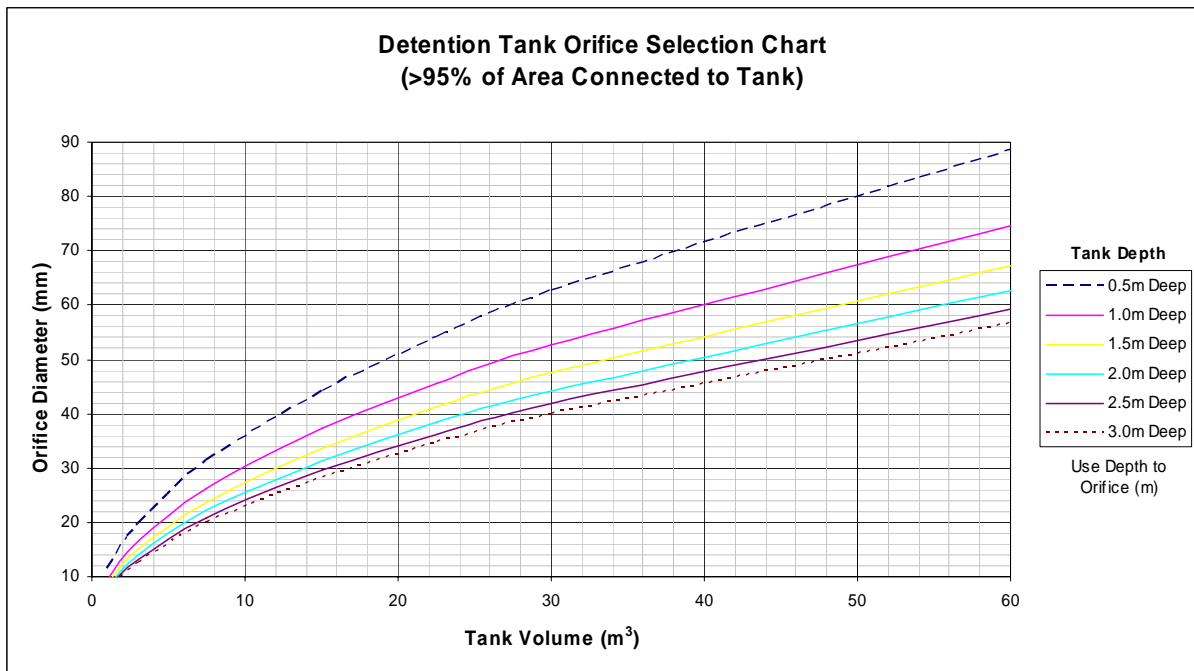

Figure 7.5: Orifice Sizing Chart for 2yr & 10yr Detention
7. **Size of the orifice for 2 & 10 yr** : The size of the orifice is dependant on the type of detention to be provided as well as the volume and depth of the tank. Figures 7.5 and 7.6 below can be used as a first approximation to size the orifice. For maintenance reasons, the minimum size of the orifice should be 10mm in diameter. *For more detail refer to the NSCC Rain Tank Guidelines.*